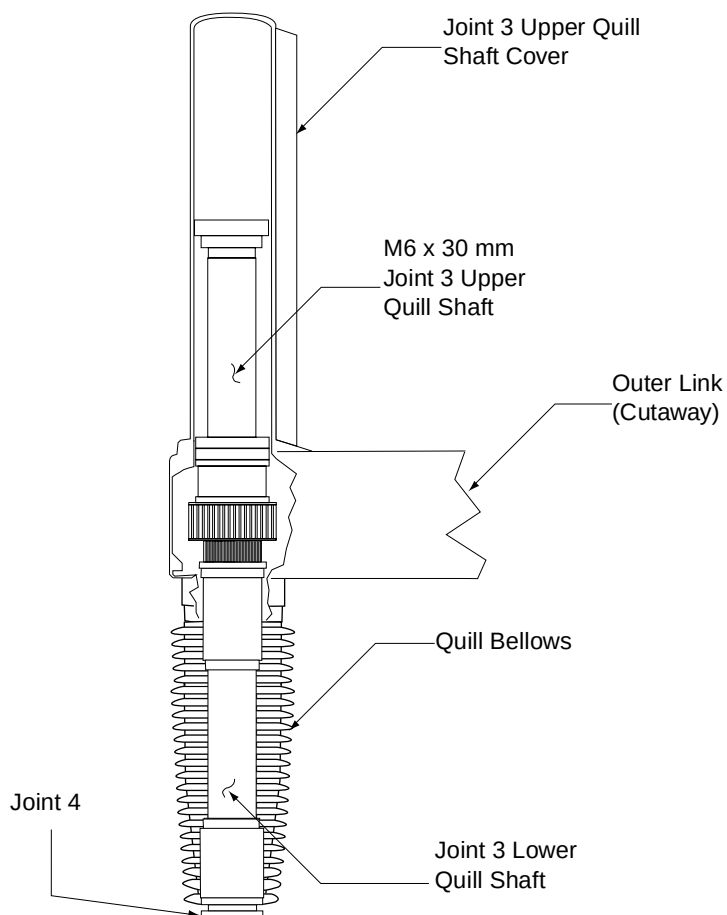

**Figure 10-2. Adept-XL Robot Upper and Lower Quill Shafts**
2. Using an M4 Allen wrench, remove the six socket-head cap screws that hold the quill cover to the outer link. Remove the quill cover. See Figure 10-2 on page 226.